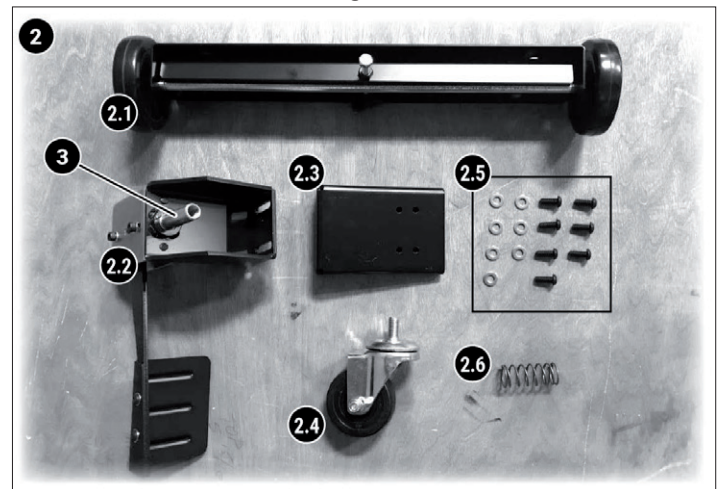

Fig. 32
Fig. 32: Unpacking (1) Contents. (2) Unpacked Contents. (2.1) Stationary Wheels. (2.2) Foot Pedal Assembly. (2.3) Support Plate. (2.4) Foot Pedal Caster. (2.5) Hardware. (2.6) Foot Pedal Spring. (3) Swivel Axle.